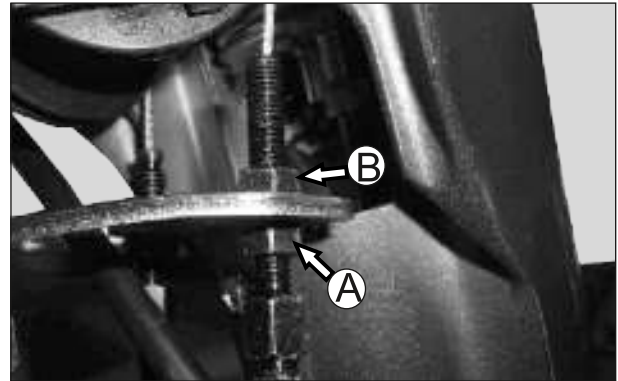

Fig. 5.21
- Hold the adjuster nut (A) and loosen the lock nut (B) on cable assembly throttle at handle bar end and take it out of the bracket complete cable guide.(Fig. 5.21)